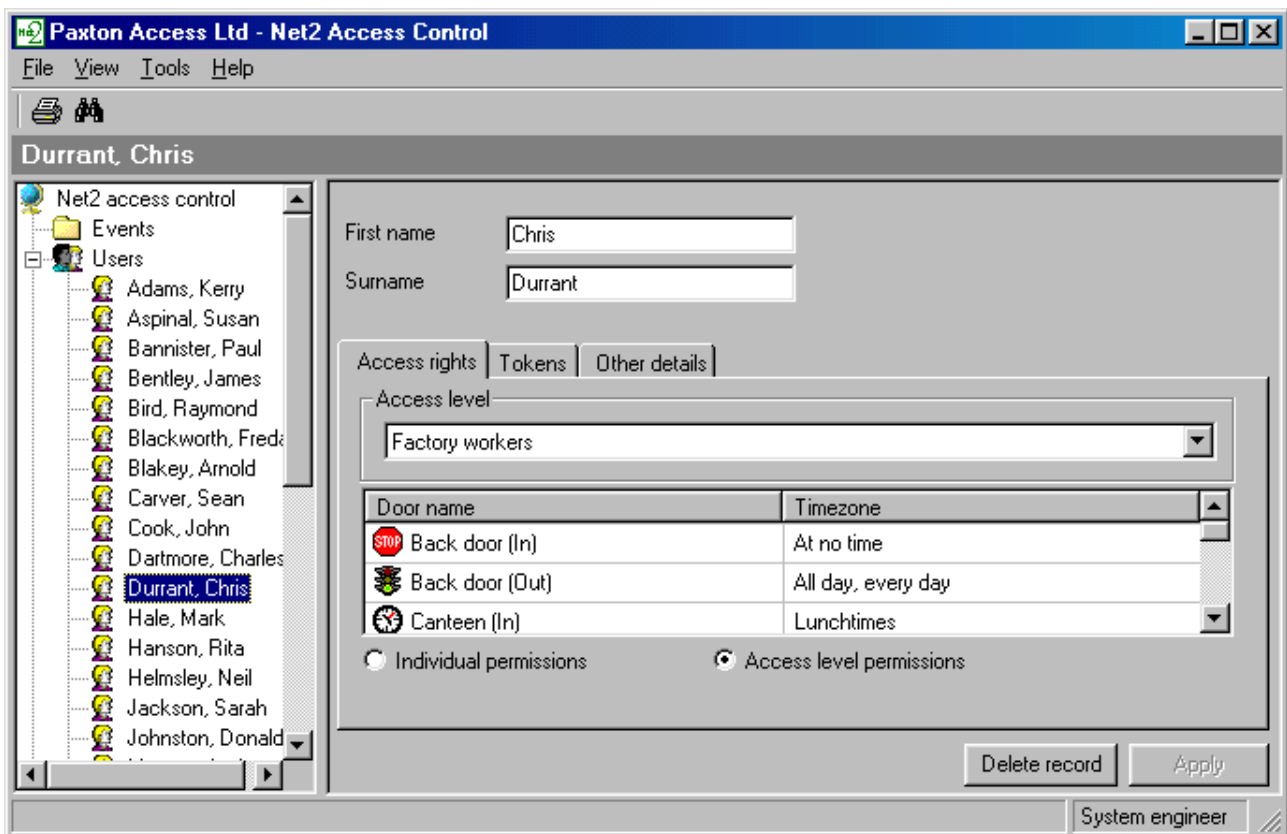

Figure 4.15
1. Select the desired user from the pull down menu in the treeview window, see figure 4.15.
1. Select the desired user from the drop down menu in the treeview window, see figure 4.15.